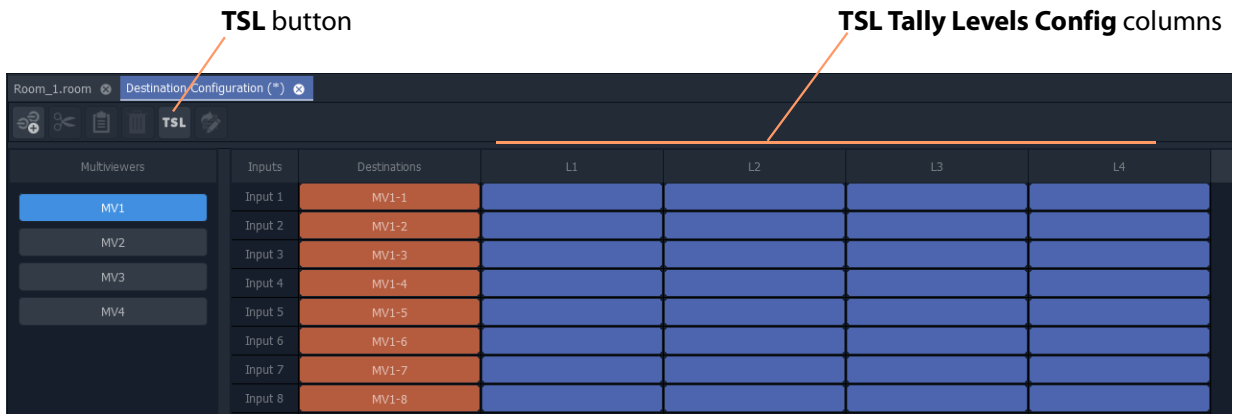

Fig. 15-2: Destination Configuration Tab - TSL Tally Levels Config Columns
- 2 Click on the **Configure Mapping** icon in the **Room Editor** tool bar. A **Destination Configuration** tab is opened. See Figure 15-2.